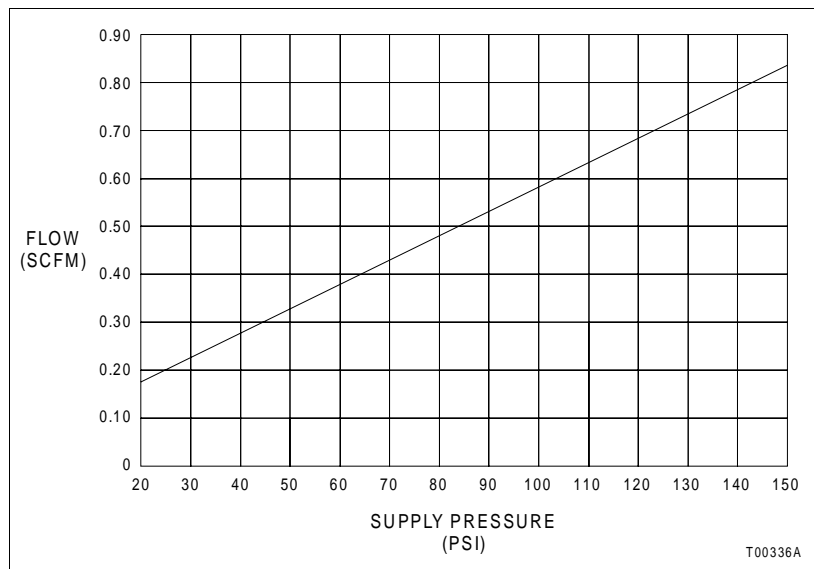

Figure 1-2. Air Consumption Data of Type AV3/4 Positioners
- **Low Air Consumption.** Enhanced pilot valve design and manufacturing technique allows the Type AV positioner maximum performance with minimum air consumption. See Figure 1-2 in the **SPECIFICATIONS** section.
Air Consumption	See Figure 1-2.